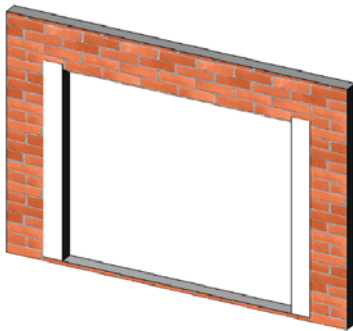

Figure 1:
- At each Jamb the flashing paper should be cut at least 3" past the weep-screed or diado flashing and at least 6" above the head of the door. The flashing must wrap around the jamb and at least 3" back into the opening (Figure 1).